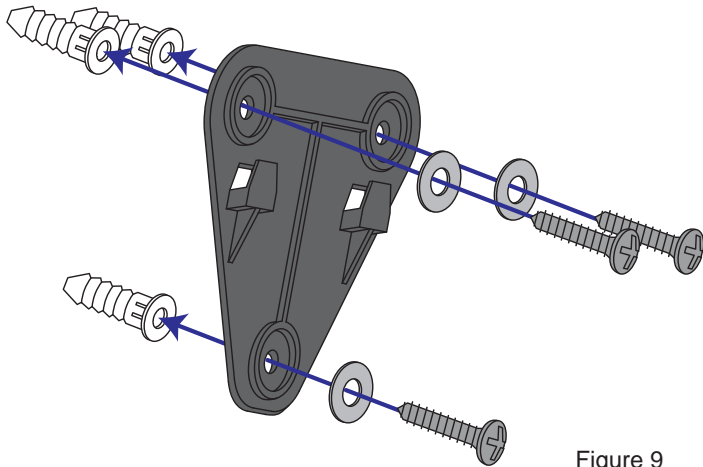

Figure 9
5. Align the triangular bracket with the screw anchors (Figure 9) and attach it with screws and washers. Tighten the screws with a Phillips-head screwdriver.